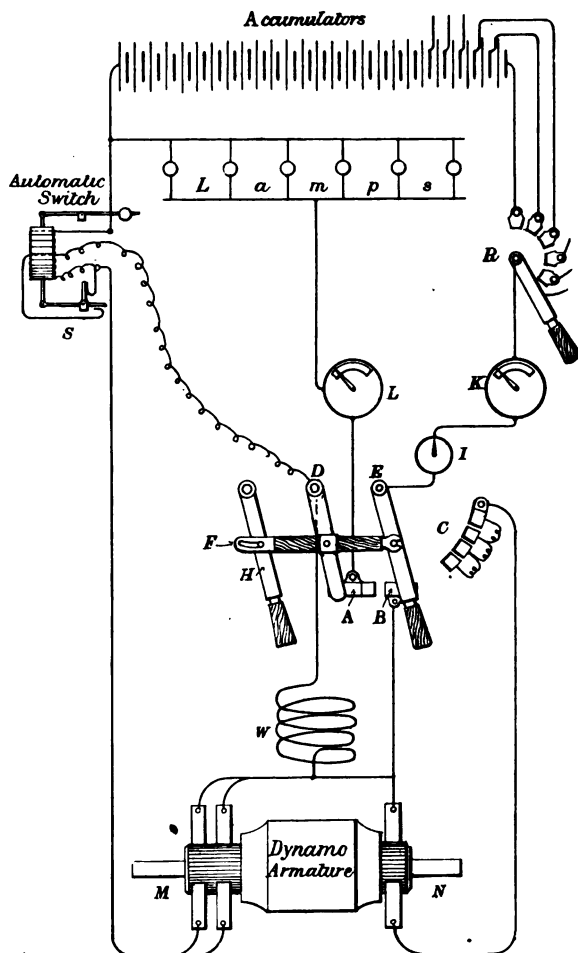

Fig. 87.—Diagram of Connections for Accumulators.
*Description.*—Fig. 87 (p. 259) shows the general arrangement. The dynamo armature has a main commutator, M, and an extra commutator, N. These two commutators are connected in series either directly or through the dynamo series winding, W. The switch-board contains two switches, viz., the dynamo-switch, D, which connects the dynamo to the lamps, and the accumulator switch, E, which connect the accumulators in either of three different ways, viz. A, to the lamps alone; B, to the lamps and dynamo; C, to the charging circuit. These switches are of the lever pattern and are interlocked by the thrust-rod, F. The handle, H, acts on the thrust-rod so that it can only put the dynamo switch "on." To take it "off" the accumulator switch must be moved so that the accumulators are connected to the lamps alone. When the dynamo switch is put "on" the thrust-rod moves the accumulator switch from A to B, thus connecting the accumulator to the dynamo in such a way that they are in readiness to assist in supplying current to the lamps without risk of reversing the dynamo. If the dynamo does not need